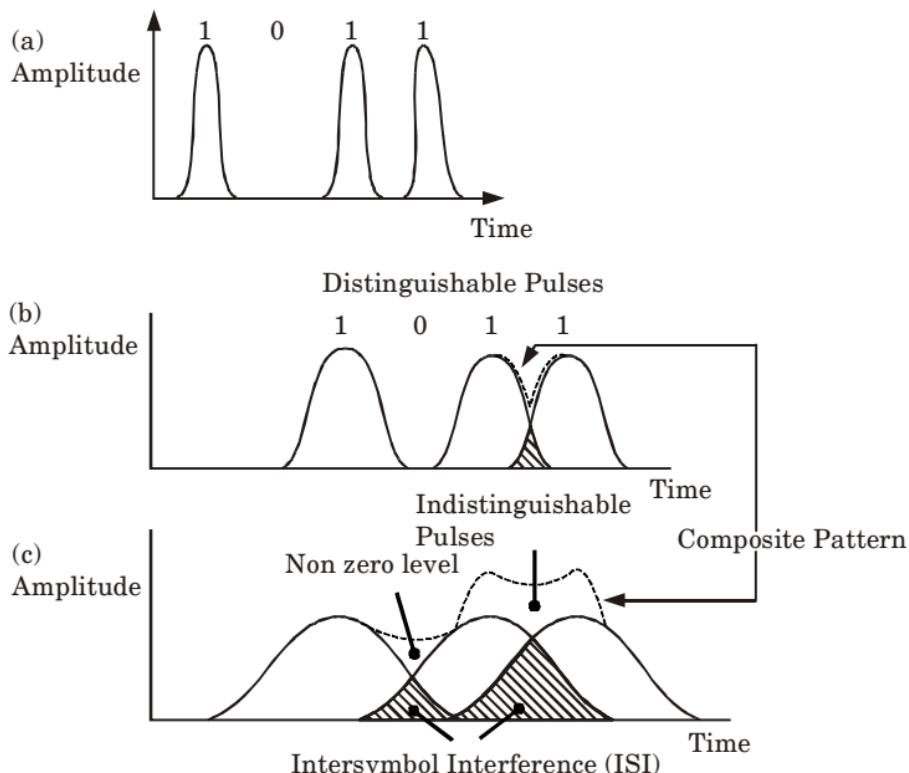

Fig. 10.
2. The major implementation of optical fiber transmission involves some form of digital modulation then dispersion mechanisms within the fiber cause broadening of the transmitted light pulses as they travel along the channel. This phenomenon is shown in the Fig. 10.
3. From Fig. 10 it may be observed that each pulse broadens and overlaps with its neighbors, eventually becomes indistinguishable at the receiver input the effect is known as intersymbol interference (ISI).